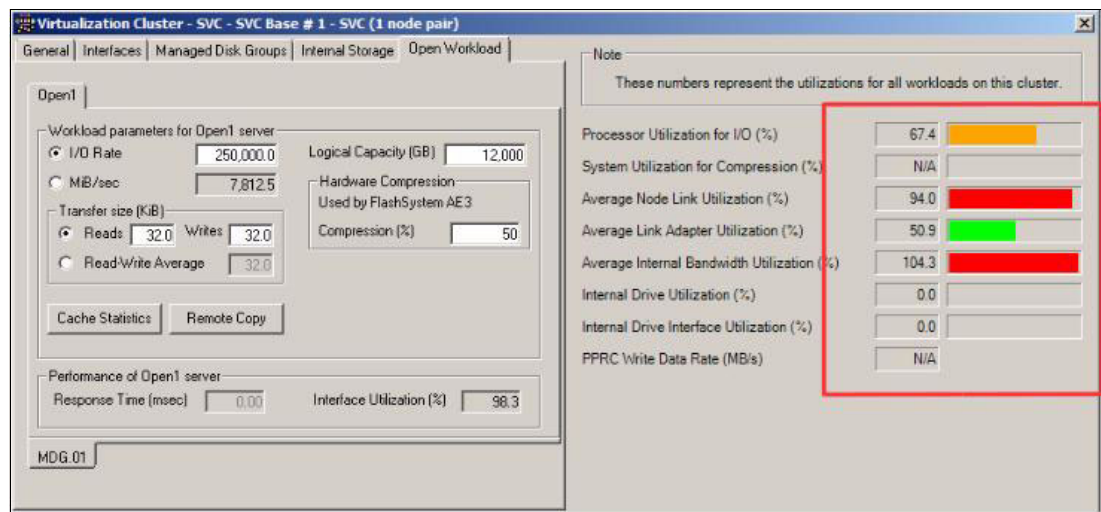

Figure 16 IBM FlashSystem V9000 Cluster components high utilization
- ▶ Figure 16 shows high utilization of some components in the cluster, so this model cannot ensure the lowest latency.